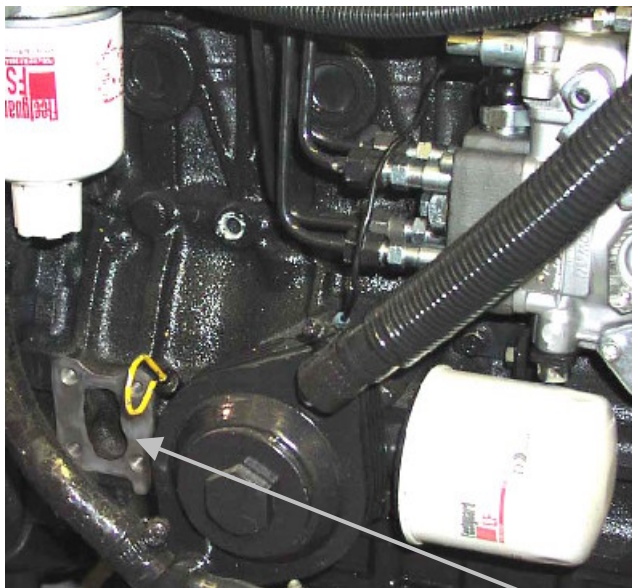

Figure 3 – Actuator Bracket mounting holes (4)
The location of the bolt holes for mounting the bracket on the engine is directly under the fuel filter as shown in Figure 3. Place an M10 lockwasher (3) followed by an M10 flatwasher (4) onto each of the four M10 x 25 bolts (2). Attach the Bracket to the engine.